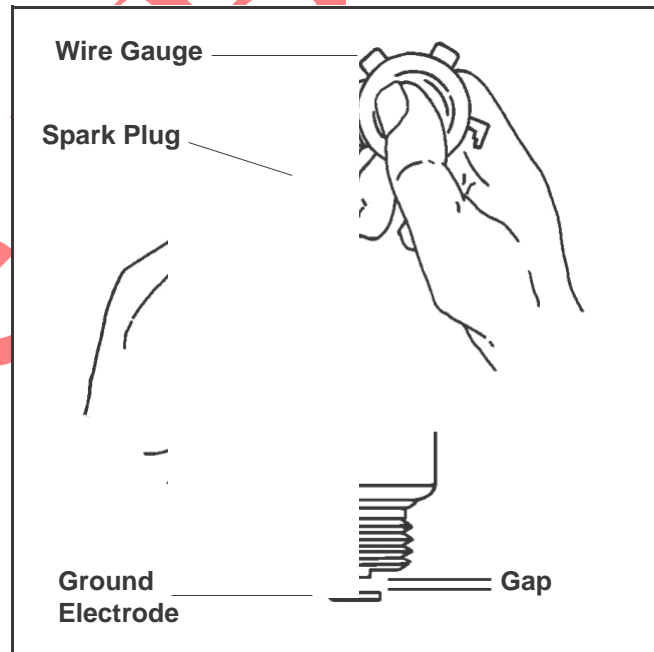

Figure 8-1. Servicing Spark Plug.
3. Check the gap using a wire feeler gauge. Adjust the gap by carefully bending the ground electrode. See Figure 8-1. Gap CH11-15 plugs to **1.02 mm (0.040 in.)**. Gap CH16 plugs to **0.76 mm (0.030 in.)**.